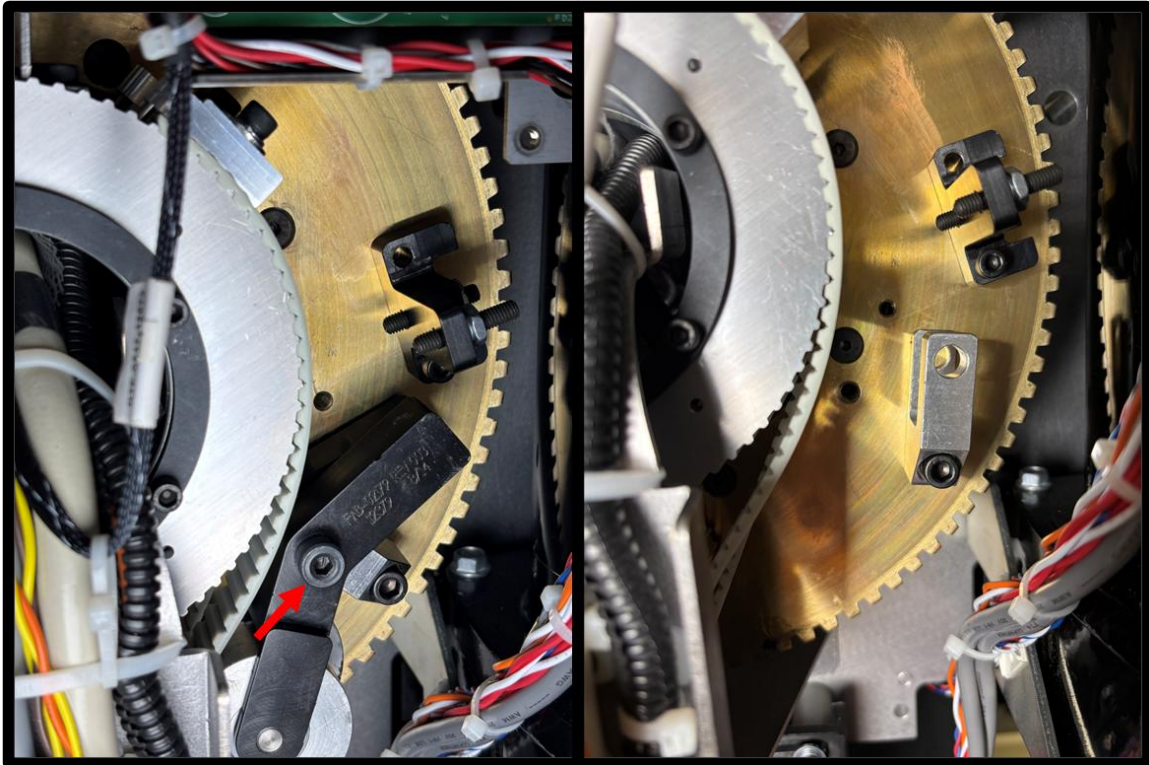

Figure 9 - Tensioner Rollers before (left) and after removal (right)
12. Remove the pivot screw and rollers then loosen and rotate the roller mount away from the VTA rotation screws as shown in Figure 9. Retighten the remaining hardware to secure in place.
Failure to position and secure the tensions rollers as shown in Figure 9 (right) can result in contact with the system while rotating and shearing of the tensioner hardware.